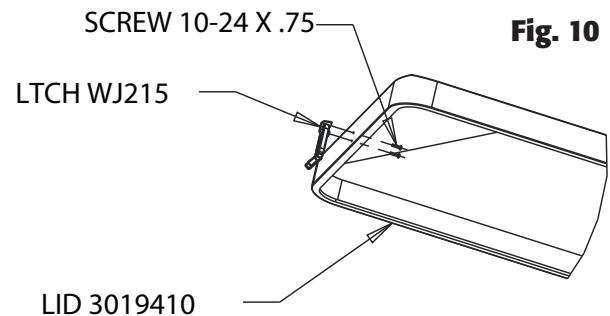
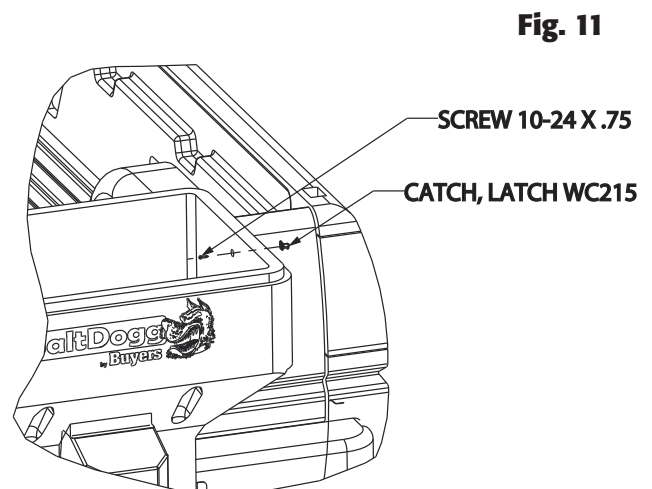

Fig. 10
Fig. 11
10. Attach bracket and handle of draw latch to lid #3019410 using 2 10-24 screws as shown in Fig.10. Attach draw latch catcher to the hopper as shown in Fig.11.